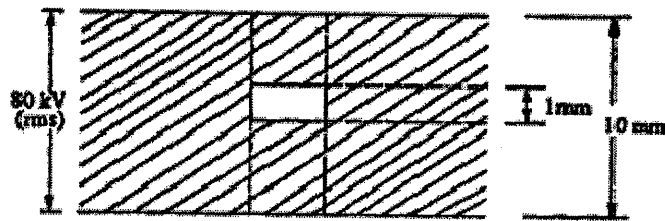

Figure 1
- (b)** A solid dielectric specimen of dielectric constant of 4.0 shown in the Figure 1 has an internal void of thickness 1 mm. The specimen is 1 cm thick and is subjected to a voltage of 80 kV (rms). If the void is filled with air and if the breakdown strength of air can be taken as 30 kV (peak)/cm, find the voltage at which an internal discharge can occur. 04